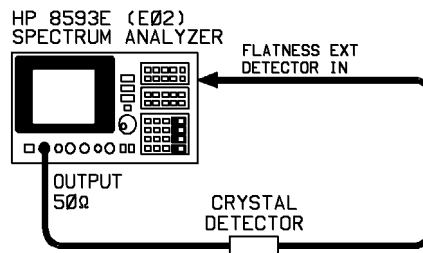
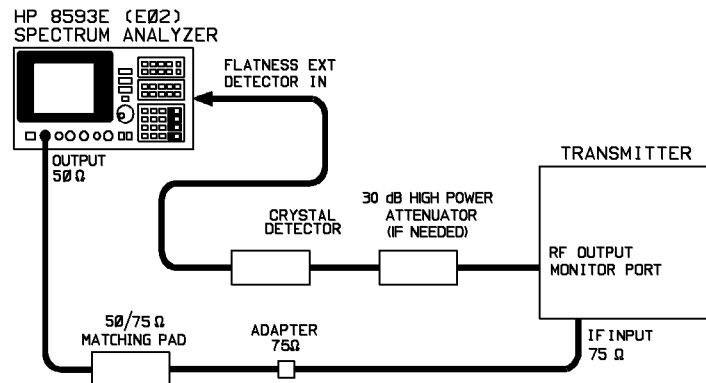

Figure 3-18. Flatness Calibration, 0 to 2.9 GHz
Figure 3-19. Flatness through Upconverter
11. Configure the calibration setup as shown in Figure 3-18.
If the IF input of your transmitter is at 75Ω, then the 50Ω-75Ω Matching Pad shown in Figure 3-19 should be used. However, because the calibration setup shown in Figure 3-18 is all at 50Ω, the Matching Pad cannot be used in the calibration. Any unflatness inherent in the Matching Pad will therefore cause an error in the measurement.
16. Set up equipment as shown in the Figure 3-19.